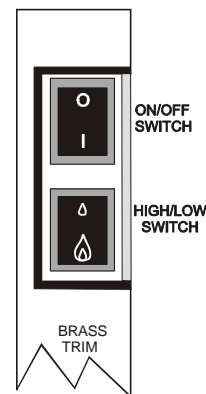

Figure 2 - Duo Power Fan Control (Side Trim)
2. Set the High/Low switch on the trim to the  (Large Flame) position (**Figure 2**).